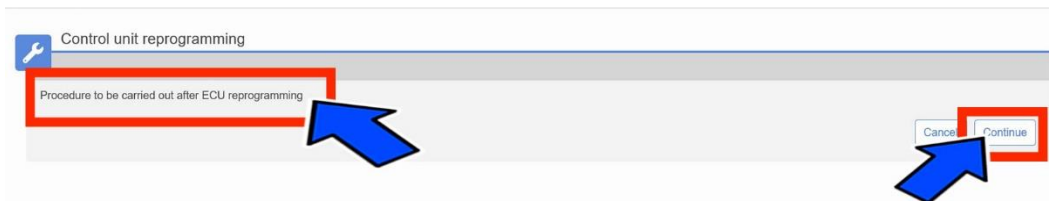

Figure 19 - Procedure to be carried out after ECU reprogramming
- Select “Procedure to be carried out after ECU reprogramming” and then click “Continue” (Figure 19).